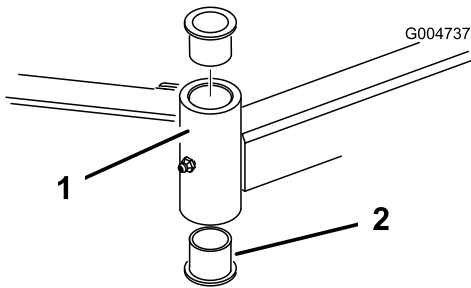

Figure 19
4. Insert a pin punch into the top or bottom of the mounting tube and drive the bushing out of the tube (Figure 19). Also drive the other bushing out of the tube. Clean the inside of the tubes to remove dirt.